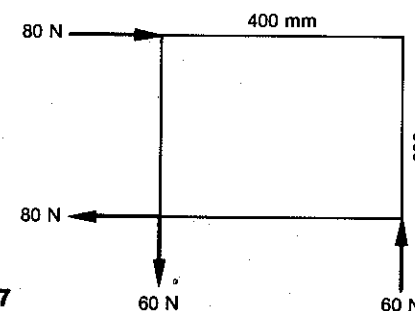

Fig. 5.17
- 5.14 A 400 mm × 300 mm plate is subjected to forces as shown in Figure 5.17. Show that the turning effects of the forces add up to zero at any point.